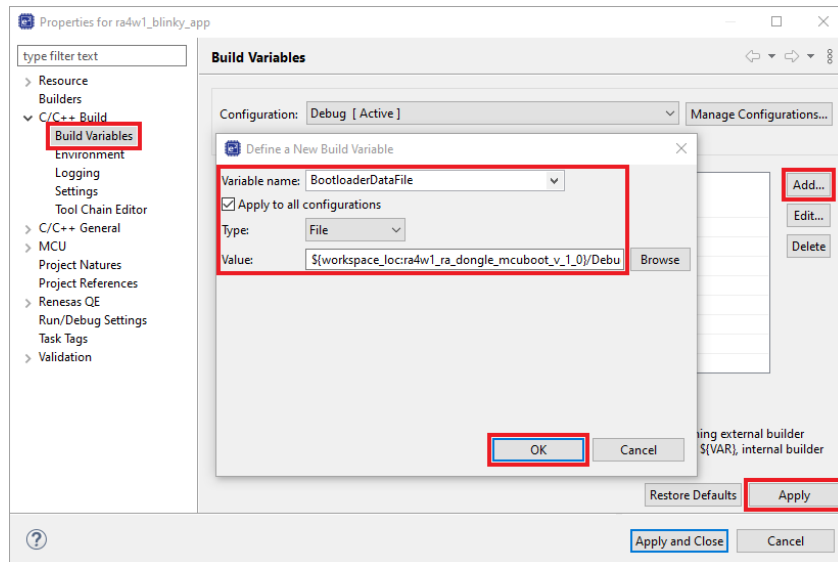

Figure 24. Adding a Build Variable to Use the Bootloader
14. Select **C/C++ Build > Build Variables**, click on the **Add...** button. In the **Variable name:** field enter **BootloaderDataFile**. Check the **Apply to all configurations** box (Figure 24). Change the **Type:** to **File** and in the bootloader project in **Value:** enter the following relative path to the *.ld file: